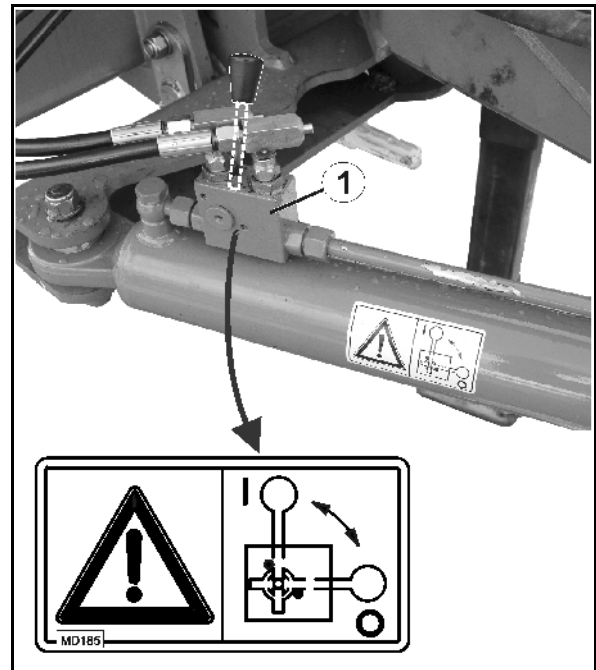

Fig. 27
4. Secure the steering drawbar by setting the stop tap (Fig. 27/1) to position **0**.